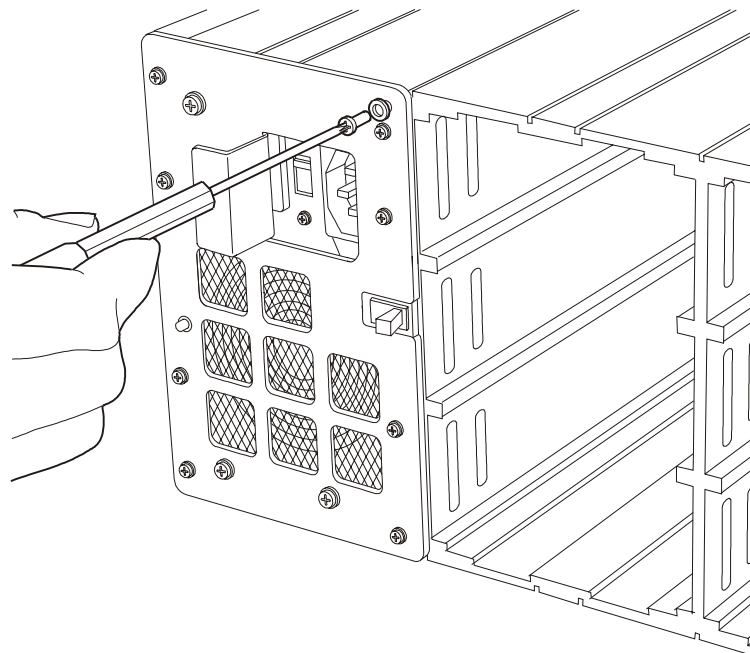

Figure 2-6 Fitting the Earth Screw
- 6 Fit and tighten the retaining screw on the front panel to secure the module (see Figure 2-6).